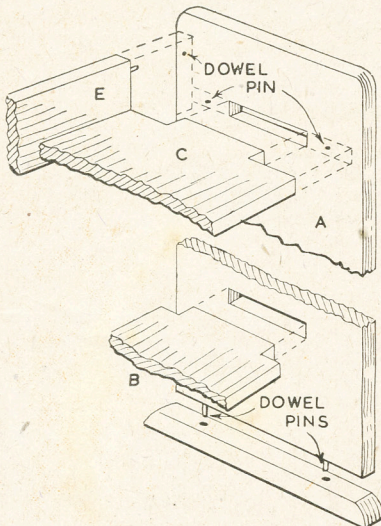

Fig. 3—Details of shelf and foot joints
Both these pieces are fitted into the sides by the open mortise and tenon joint, shown in detail in the constructional diagram, Fig. 3.
When the tenons have been glued into the uprights some dowel pins may be driven in to strengthen the joint (see Fig. 3) where the shelf (C) is to run into the upright (A).
length measurement is given for these, and a thicker piece of wood could be got for these than $\frac{3}{8}$ in. Then the dowel pins which hold them have a better fixing. See Fig. 3 for the method of fixing the dowels. Some workers may desire the simpler method of screwing.